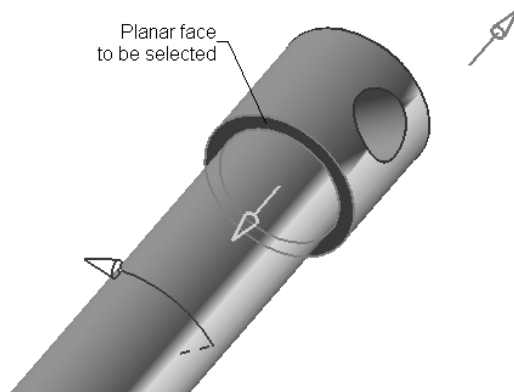
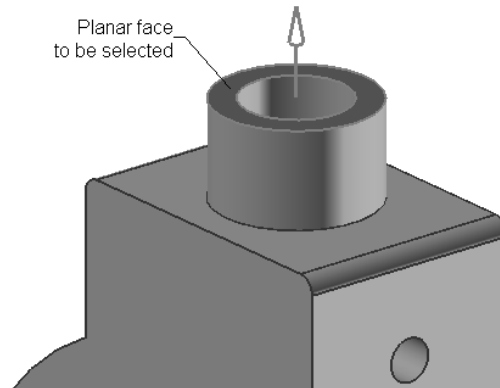

**Figure 8-41** Cylindrical face of the Screw to be selected
**Figure 8-42** Cylindrical face of the Base to be selected
- Insert the Screw in the assembly window and apply the required assembly constraints to make it a fully constrained part, refer to Figures 8-41 through 8-47.
6. Select the cylindrical face of the Screw, as shown in Figure 8-41. Next, select the cylindrical face from the Base, as shown in Figure 8-42.